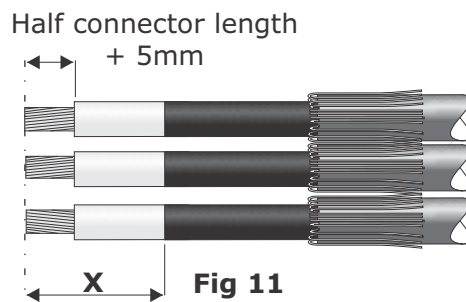

Fig 11
16. Position and cut the cores ensuring dimension "X" is maintained. Remove the core insulation as shown in Fig 11.